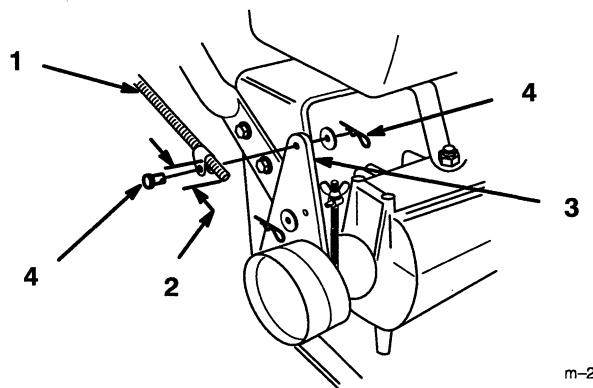

**Figure 6**
1. Route regulator wires through J-clip on engine, and plug in clutch and engine in-line wire connectors (Fig. 6).
2. Secure ground wire to one of three holes in frame, at rear of engine, with self-tapping screw and star washer (Fig. 6).
3. Secure wire harness and throttle to upper handle with cable tie (Fig. 6)